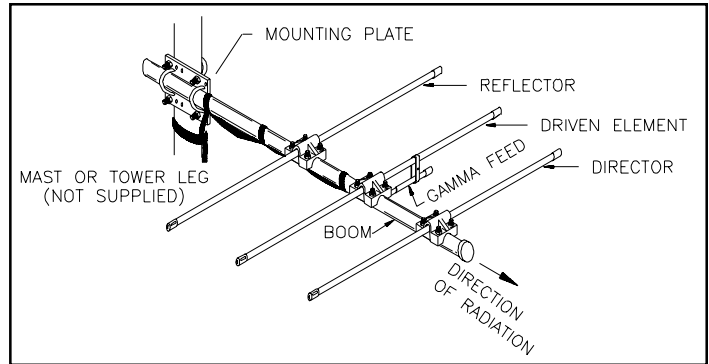
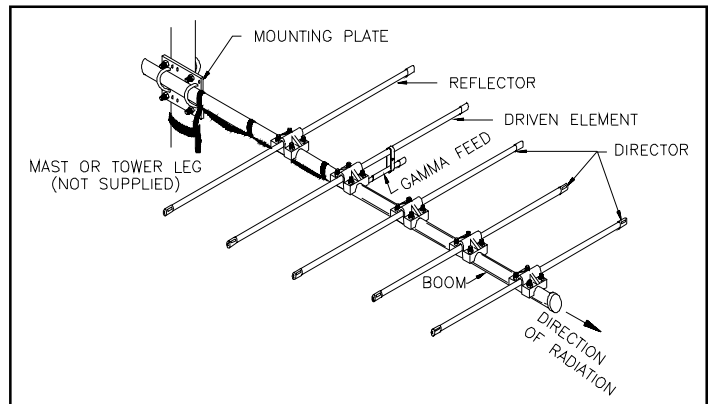

Figure 1: Assembled ASP816 Three-Element Yagi
Figure 2: Assembled ASP817 Five-Element Yagi
1. Locate the proper element spacing by measuring and marking the boom. Start with the director by placing it two inches from the end of the boom. Refer to Figures 1 and 3 for the ASP816, Figures 2 and 4 for the ASP817, and Table 1 for dimensions.